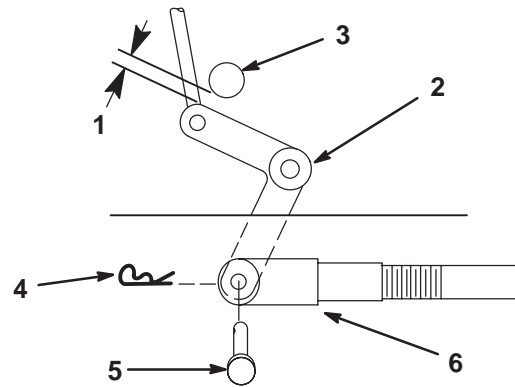
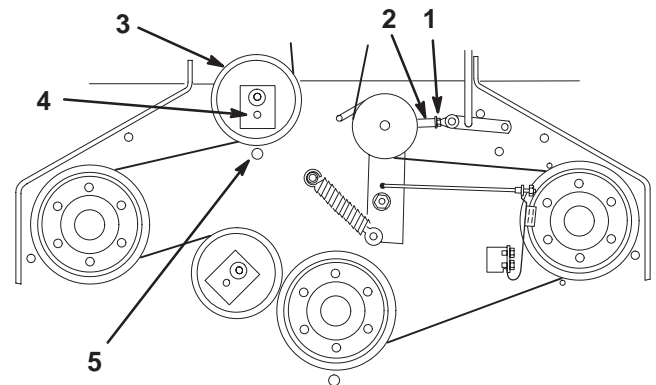

Figure 57
Figure 58
9. Check the clearance between the bell crank and the transmission output shaft (Fig. 57).
11. Rotate the clevis clockwise on the rod to increase the clearance or counterclockwise to decrease it (Fig. 57).
Note: If the assist arm does not contact the front stop on the mower deck (Fig. 58), adjust the clevis to bring the bell crank closer to the transmission output shaft (Fig. 57).
13. Check the belt guide under the engine frame for proper adjustment (Fig. 58).
3. Loosen the locknut on the turnbuckle (Fig. 58).
4. Rotate the turnbuckle toward the rear of the mower to increase the tension on the belt. Rotate the turnbuckle toward the front of the mower to decrease the tension on the belt (Fig. 58).